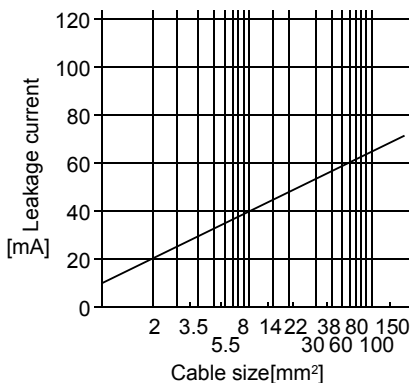

Fig. 13.1 Leakage current example (Ig1, Ig2) for CV cable run in metal conduit
- Ig1: Leakage current on the electric channel from the leakage current breaker to the input terminals of the servo amplifier (Found from Fig. 13.1.)
- Ig2: Leakage current on the electric channel from the output terminals of the servo amplifier to the servo motor (Found from Fig. 13.1.)